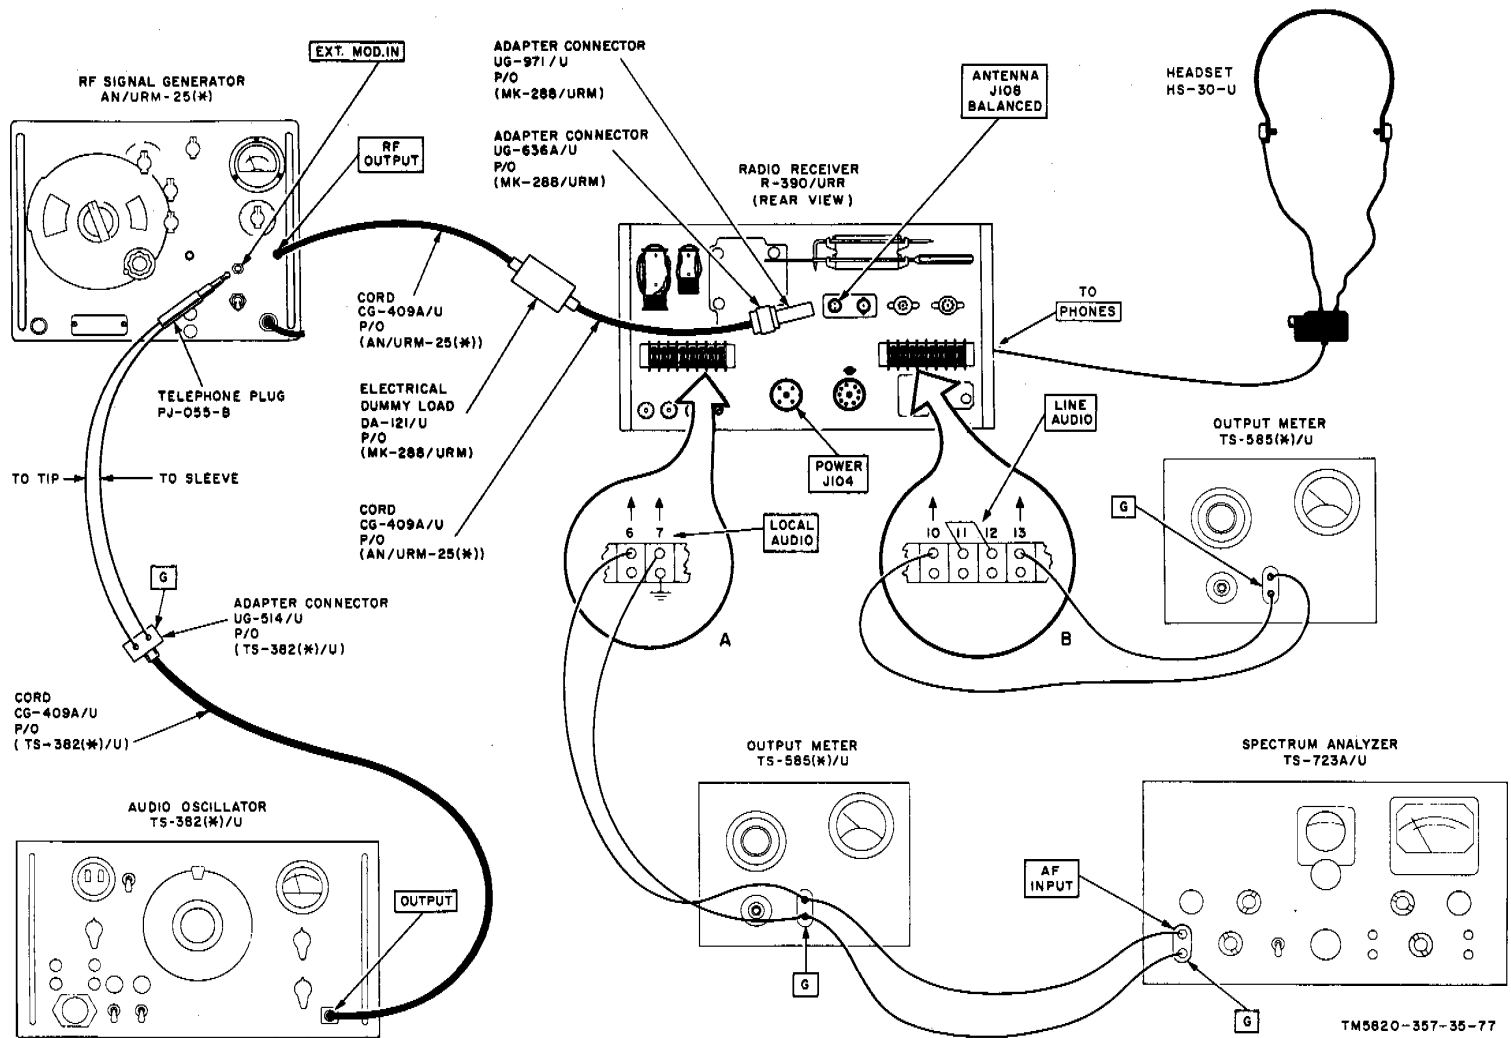

Figure 52. Audio distortion test setup.
(fig. 52)
b. Test Connections and Conditions. Connect the equipments as shown in A, figure 52. Turn Spectrum Analyzer TS-723A/U on and allow it to warm up for at least 15 minutes.